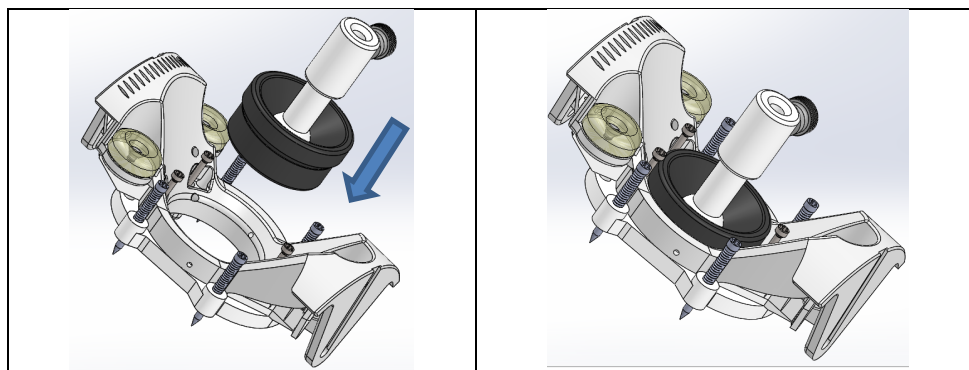

Figure 3: Scalp Mount Base with Entry Point Locator
2. Remove the Entry Point Locator from the SMARTFrame Array Kit Tray and assemble it to the Scalp Mount Base as shown in **Figure 3**.